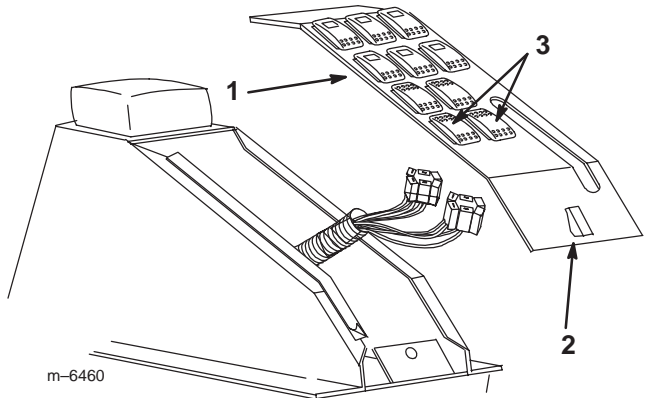

Figure 10
2. Release the latch and remove the switch panel assembly from the center console assembly (Fig. 10).